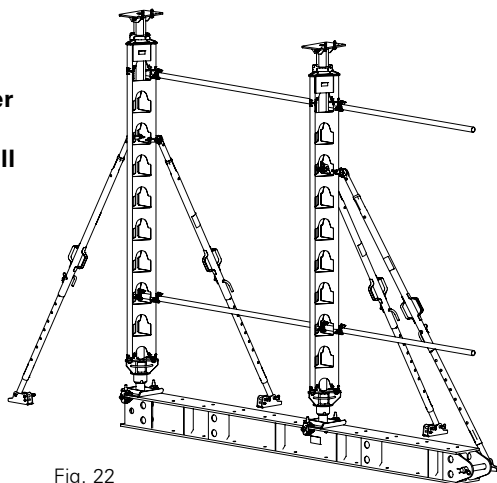

Fig. 22
- **Secure shoring, e.g. with Push-Pull Props! (Fig. 22)**